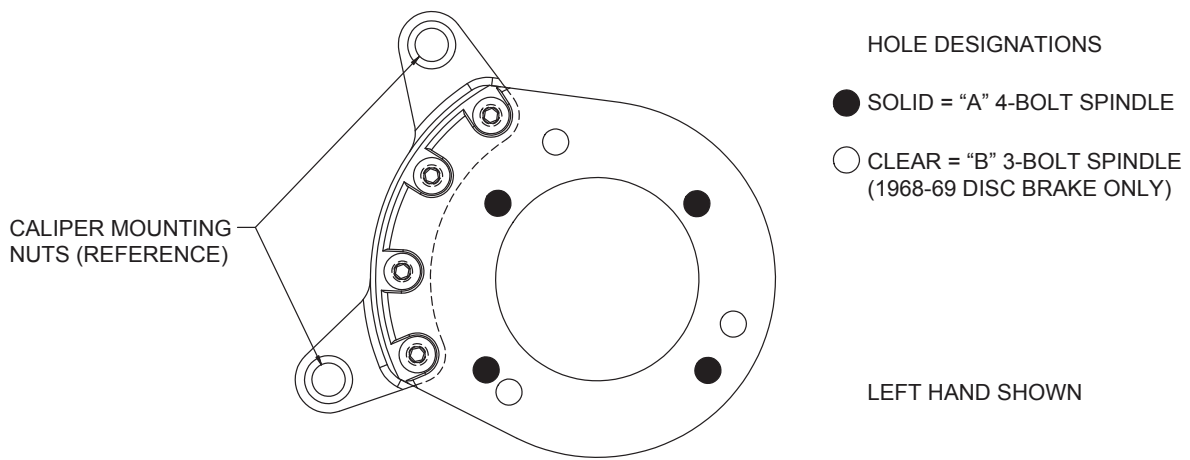
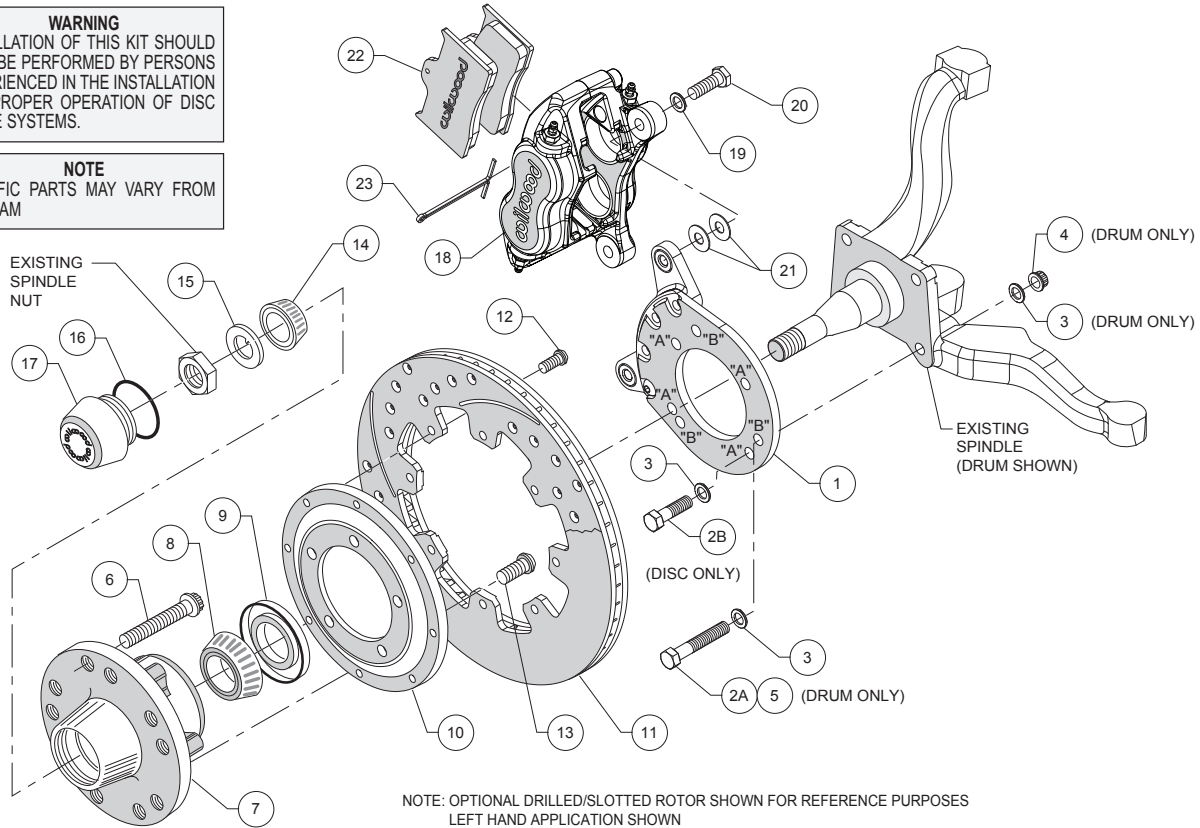
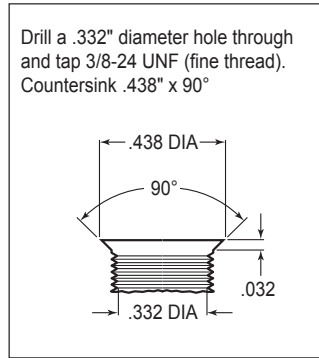
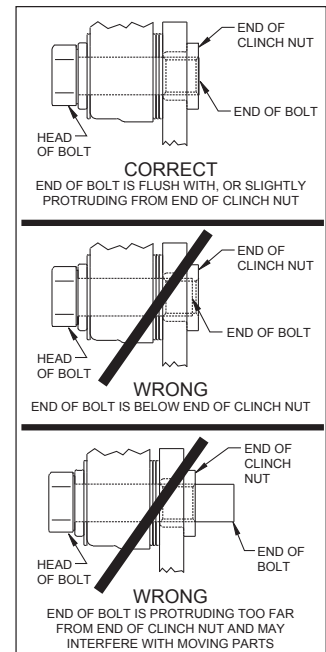

Figure 1. Wilwood Caliper Mounting Bracket
Figure 2. Typical Installation Configuration
Figure 3. Drill and Tap Detail
Figure 5. Clinch Nut Engagement Diagram
This kit has been designed for use with both the disc brake or the drum brake configuration of vehicle. The only difference is in how the Wilwood caliper mounting bracket is installed. The same bracket is used for both configurations; the disc brake version utilizes three mounting holes while the drum brake application uses four mounting holes (see Figure 1). For your convenience we have supplied bolt kits for both applications (see parts list and Figure 2 as necessary). Use the bolt kit that is applicable to your vehicle and disregard the other one.
NOTE: This modification should be performed by a qualified machinist and completed before assembly of the Wilwood disc brake kit begins. Using the caliper mounting bracket as a template (refer to Figure 1 as necessary), locate and verify the three original holes on the spindle that need to be modified. Drill a .332" diameter hole through all three holes, then tap 3/8-24 UNF (fine thread). Countersink the holes to .438" diameter x 90°, as shown in Figure 3.
Assembly Instructions (numbers in parenthesis refer to the parts list, and Figure 2 on the preceding pages): **CAUTION:** All mounting bolts must fully engage clinch nuts. Be sure to check that all bolts are either flush or protruding through flanged side of clinch nut after shimming, Figure 5.
•**NOTE:** This kit uses the same mounting bracket (1) for both the drum and disc brake spindles. The drum version, Photo 1, uses four mounting bolts (designated "A"), while the disc version, Photo 2, uses three (designated "B"). Refer to Figures 1 and 2 for the basic installation position of the bracket and the "A" and "B" reference designations (not physically marked on the brackets).
For Drum Spindle: Align bracket, using the four "A" holes, to the face of the spindle and attach using bolts (2A and 5), washers (3), and lock nuts (4), as shown in Figure 2. Ensure that the flanged heads of the clinch nuts in the bracket are facing outboard, Photo 1. Torque nuts to 30 ft-lb.
For Disc Spindle: Align bracket, using the three "B" holes, to the face of the spindle and attach using bolts (2B) and washers (3), as shown in Figure 2. Finger tighten. Ensure that the flanged heads of the clinch nuts in the bracket are facing outboard, photo 2. Remove bolts one at a time, apply red *Loctite*® 271 to threads, and torque to 40 ft-lb.
- Pack the large inner bearing cone (8) with high temperature disc brake bearing grease (available from your local auto parts store) and install into the backside of the hub (7), Photo 4.
- Install the grease seal (9) by pressing into the backside of the hub (7), flush with the end of the hub, Photo 4.
- Orient the rotor (11) and the rotor adapter (10) as shown in Figure 2 and Photo 5. Attach the rotor to the adapter using bolts (12). Using an alternating sequence, apply red *Loctite*® 271 to the threads, and torque to 25 ft-lb.
- Mount the adapter/rotor assembly (10/11) to the hub (7) using bolts (13), as shown in Figure 2 and Photo 6. Using an alternating sequence, apply red *Loctite*® 271 to the threads, and torque to 45 ft-lb.
- Pack the small outer bearing cone (14) with high temperature disc brake bearing grease and install into hub (7). Slide the hub/rotor assembly onto the spindle. Secure using spindle washer (15) and OEM spindle nut, Photo 7. Adjust bearings per OEM specifications. Install saved OEM nut lock (if any) and a new cotter pin (not included).
- Screw dust cap (17) into hub (7), Photo 8. Friction created by the o-ring (16) on the dust cap keeps it from unscrewing. **NOTE:** *The O.D. of the existing OEM spindle washer may be larger than the I.D. of the dust cap not allowing it to seat against the hub face. Therefore, use the spindle washer (15) supplied with the kit instead of the OEM washer.*
- NOTE:** *Please reference the caution statement at the beginning of the assembly instructions.* Mount the caliper (18) onto the caliper mounting bracket (1) using bolts (20) and washers (19), as shown in Figure 2. Initially place two .035" thick shims (21) on each bolt between the caliper and the bracket, Photo 9. Temporarily tighten the mounting bolts and view the rotor (11) through the top opening of the caliper. The rotor should be centered in the caliper, Photo 10. If not, adjust by adding or subtracting shims between the bracket and the caliper. Always use the same amount of shims on each of the two mounting bolts. **NOTE:** *The end of each bolt must be flush with or slightly protruding from the head of the clinch nut, as shown in Figure 5.* If necessary place spare shims between washer (19) and caliper mounting ear to achieve the proper clinch nut engagement. Once the caliper alignment and clinch nut engagement are correct, remove the bolts one at a time, apply red *Loctite*® 271 to bolt threads, and torque to 40 ft-lb.
- Install the disc brake pads (22) into the caliper, with the friction material facing the rotor (11), and secure in place using cotter pin (23), Photo 11.